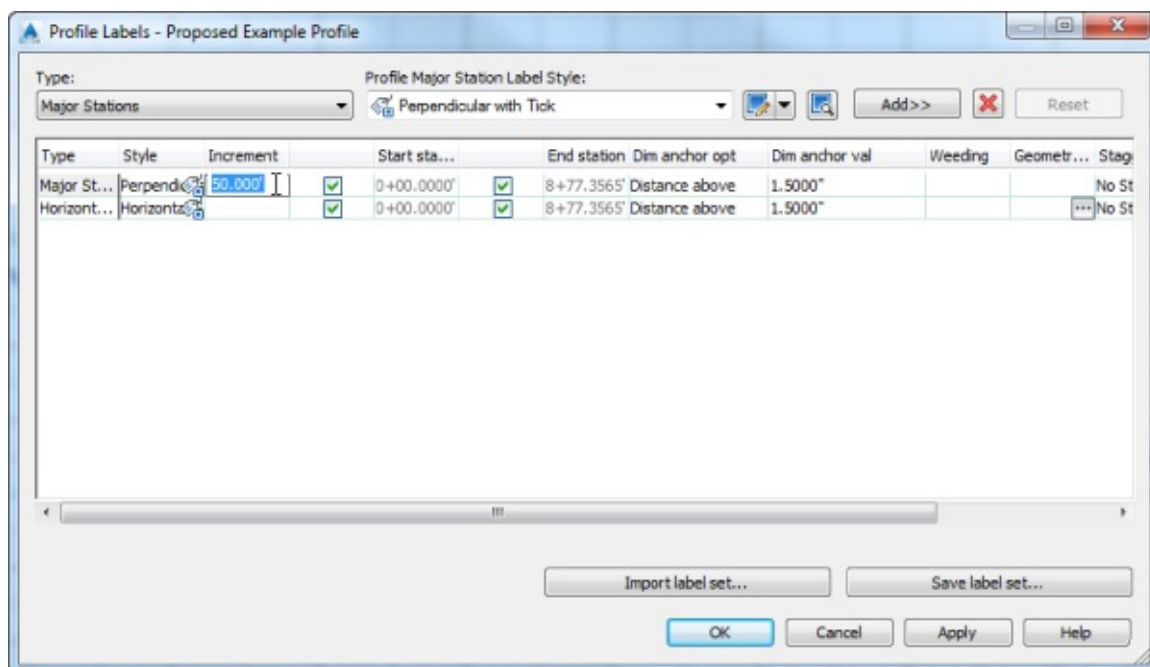

Figure 18.43 Modifying the Major Stations labeling increment
11. In the middle of the Profile Labels dialog, change the Increment value in the Major Stations row to 50' (10 m), as shown in Figure 18.43.